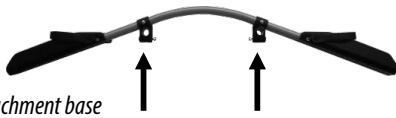

Figure 3: Attachment base
- Undo the nut and pull the carriage bolt from the attachment base of the expansion rail (Figure 3 and 3 a).